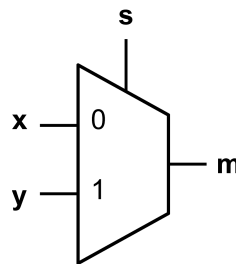
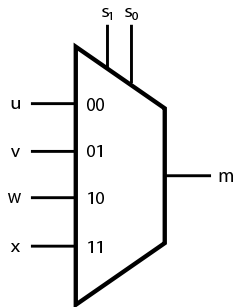

Figure 1: Symbol for a 2-to-1 multiplexer
Figure 3: Symbol for a 4-to-1 multiplexer
The schematics should show the structure of your circuit, much like the schematics in Lab 1 showed how your circuit should be built. Figure 1 and Figure 3 are examples of how to draw the schematic for multiplexers. For the schematics you will need to show the names of each input and output (in your Logisim circuits) and the switches or LEDs to which they would be mapped on the DE1-SoC board (for the top-level module).
Figure 1 shows the symbol for a 2-to-1 multiplexer. As mentioned in Lab 1, a multiplexer is a device that uses a select signal to select which one of multiple inputs should appear on the output of the device. In Figure 1, input *s* will control which of the inputs *x* and *y* will appear on the output *m*. If *s* is 0, *x* will appear on the output, while if *s* is 1, *y* will appear on the output.
Now construct a module for the 4-to-1 multiplexer shown in Figure 3 with the truth table shown in Table 1 using wires and multiple instances of the *mux2to1* module. Note that the truth table in Table 1 is given in a short-hand form. A real truth table would consist of rows enumerating all possible combinations of values of inputs  $u$ ,  $v$ ,  $w$ ,  $x$ , in addition to  $s_0$  and  $s_1$ , and show the value (0 or 1) of the output  $m$  for each row of the truth table. Since this would result in a truth table with a large number of rows, it is written in short-hand form instead.
5. Map your Logisim design to the DE1-SoC board inputs and outputs. Use switches  $SW_{9-8}$  as the 2-bits input, and switches  $SW_{0-3}$  as the data inputs (labeled as u,v,w,x in Figure 3). Connect the output m to  $LEDR_0$ . **(PRELAB)**